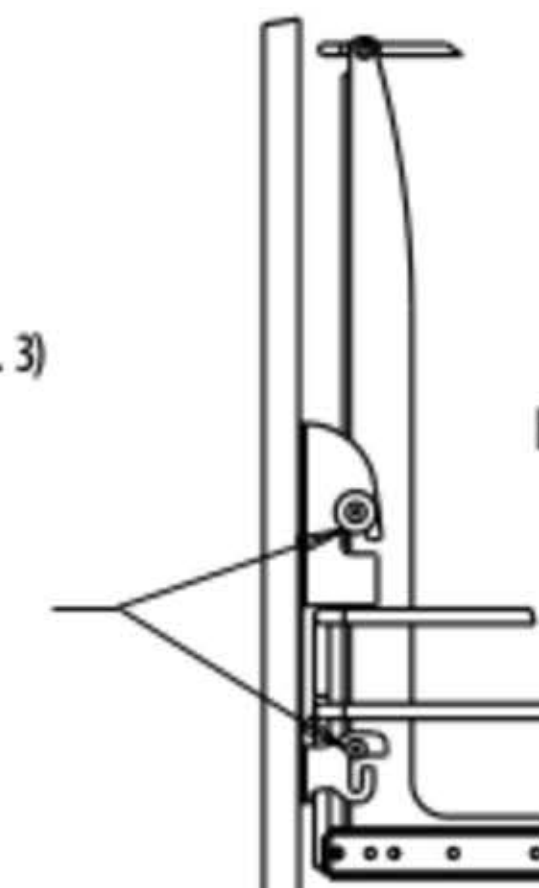

FIG. 4
STEP 6) ADJUST DOOR (IF NECESSARY) USING THE PHILLIPS HEAD SCREWS ON THE SIDE OF THE DOOR MOUNTING BRACKETS. (FIG. 4)